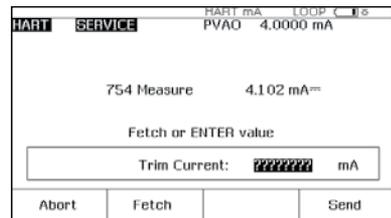

Figure 23.
5. Press the **Adjust** softkey, select **Output Trim** and press **ENTER**. The value of the primary variable (PVAO) is in the upper right corner of the display (Figure 23). This is normally a 4 mA signal. The real-time mA value as measured by the Fluke 754, is in the center of the display. Press the **Fetch** softkey to load the measured mA value. Press the **Send** softkey to send the value to the transmitter to trim the output section for the 4 mA value. Press **Continue** for the 20 mA adjustment and repeat this step.